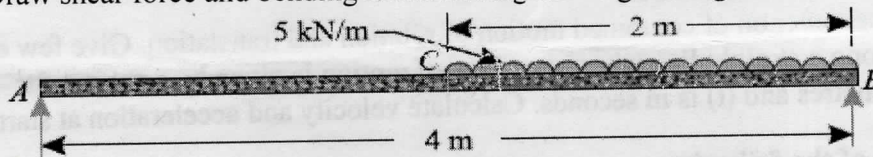

Figure: 1
- c) Draw shear force and bending moment diagram of given figure 1.